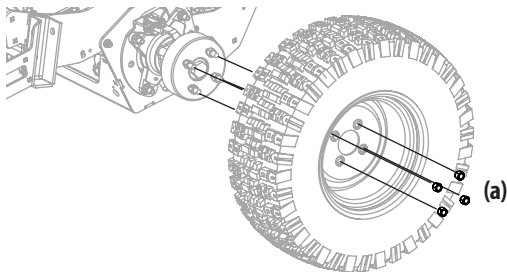

Figure 34
1. With the tires on the ground, loosen, but do not remove the four lug nuts (a) (Figure 34 on page 27).
- Torque the lug nuts (a) to 65-70 ft-lbs (88-95 N-m) in a crisscross pattern (Figure 34).